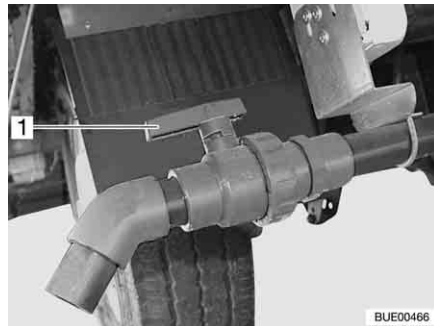

Fig. 233 Drain cock
- Turn the handle (Fig. 233,1) of the drain cock in flow direction.